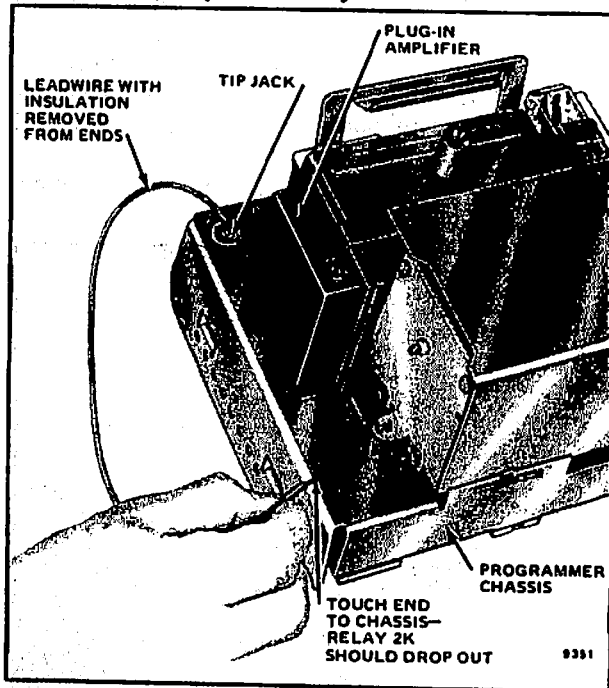

FIG. 14—CHECKING THE PLUG-IN FLAME SIGNAL AMPLIFIER FOR 2K HOLD-IN (R7247A or R7249A only).
4. If the plug-in flame signal amplifier is an R7247A Rectification Amplifier (green) or an R7249A Ultraviolet Amplifier (purple), momentarily short the tip jack to the programmer chassis (Fig. 14). If this does not cause relay 2K to drop out, open the master switch and install a new amplifier.